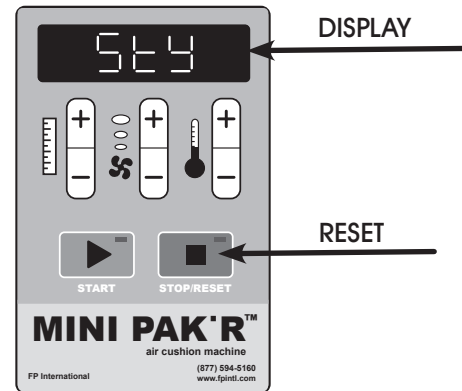

Figure 10
1. Display shows "sty". (See Figure 10)
2. Press the Reset Button to resume Air Cushion production. (See Figure 10)